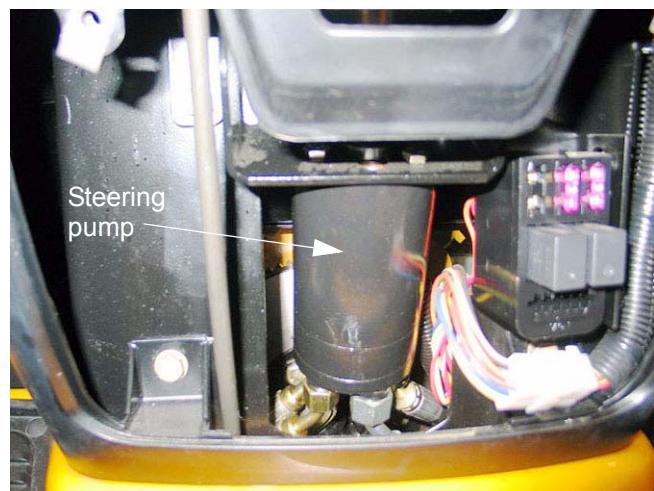

Figure 1.7
1.7. The steering pump, located in the dash pedestal contains it's own back-up gerotor charge pump that will enable steering control when the engine is not running. See Figure 1.7.